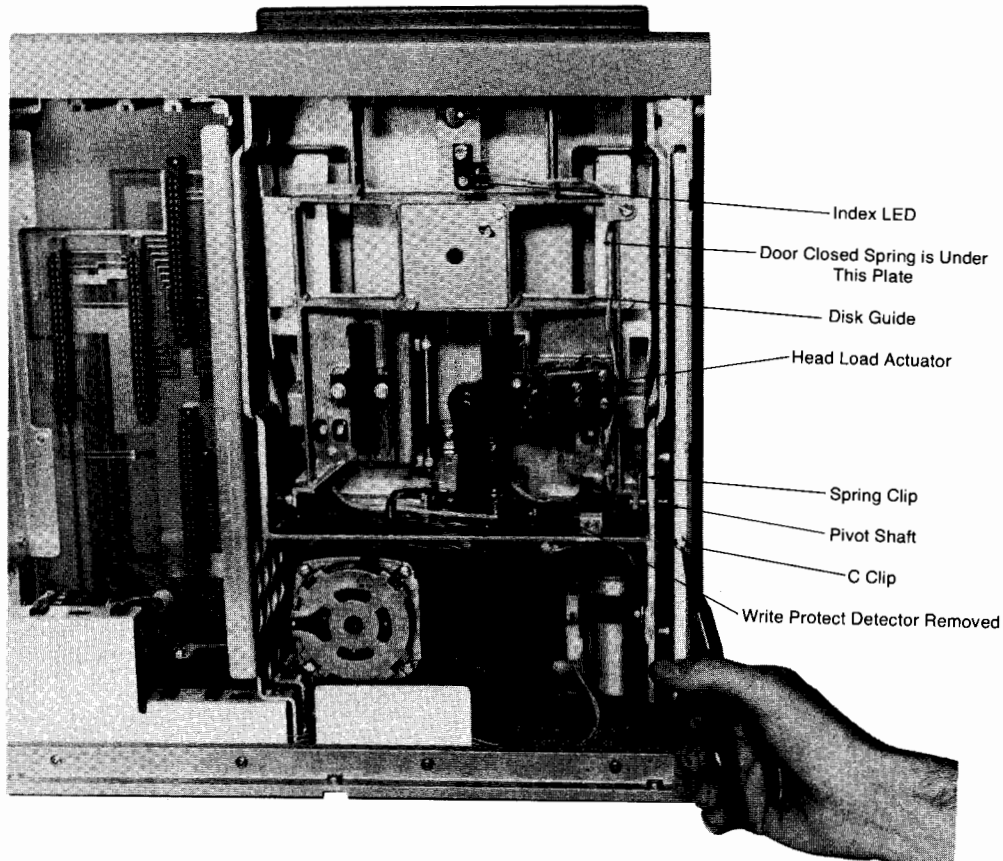

Figure 3-8. Removing the Disk Guide
4. Using needlenose pliers remove the C-clip from the pivot shaft and remove the shaft (see Figure 3-8).